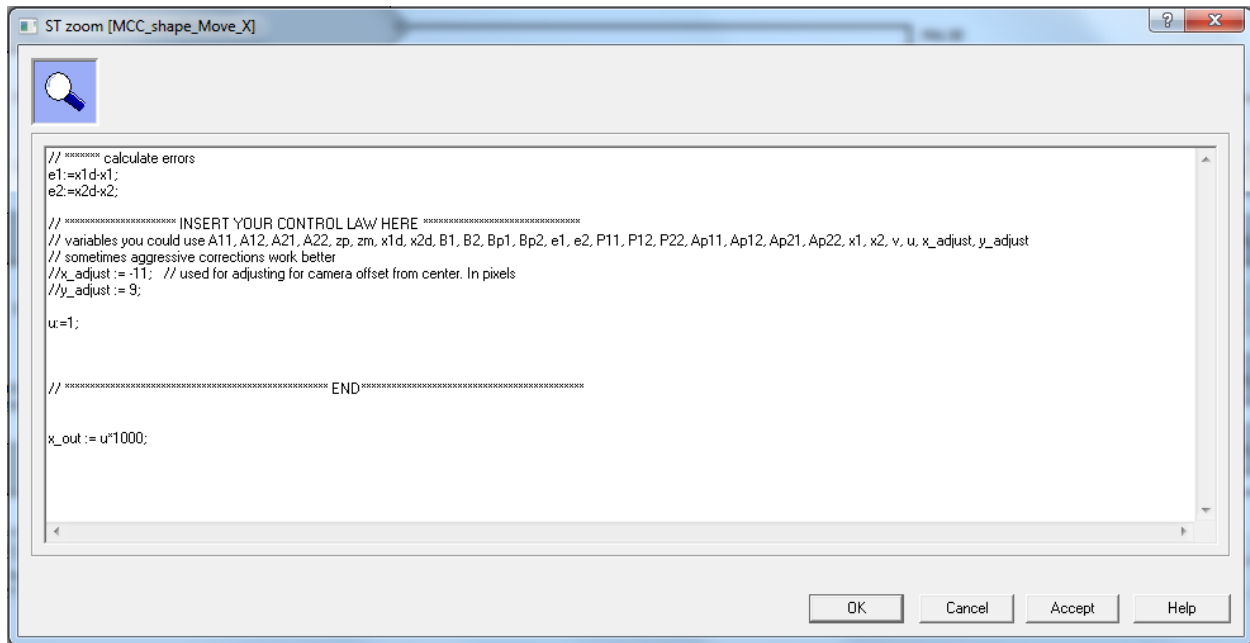

Figure 5: Code in block to enter control law
6. Figure 5 shows the opened block of code